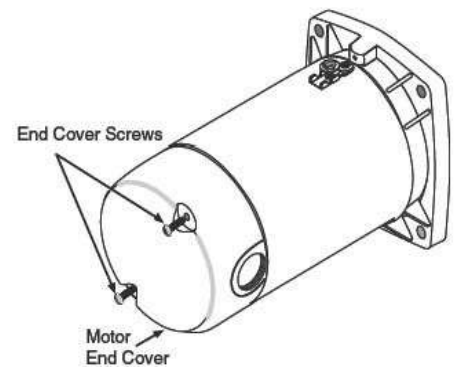

Figure 3 - Removing Motor End Cover
- ☐ If the power source is 115 volts, remove the motor end cover (Figure 3)